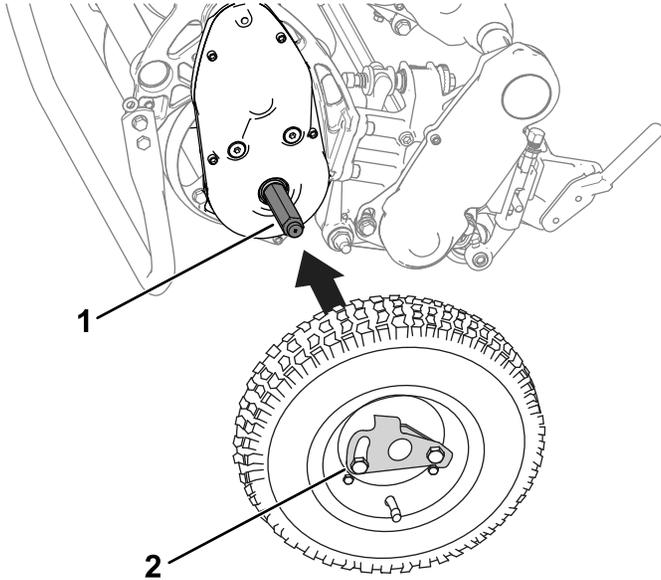

Figure 25
2. Slide a wheel onto an axle (Figure 25).
3. Pivot the wheel-locking clip (Figure 25) away from center of the wheel, allowing it to slide farther onto the axle.